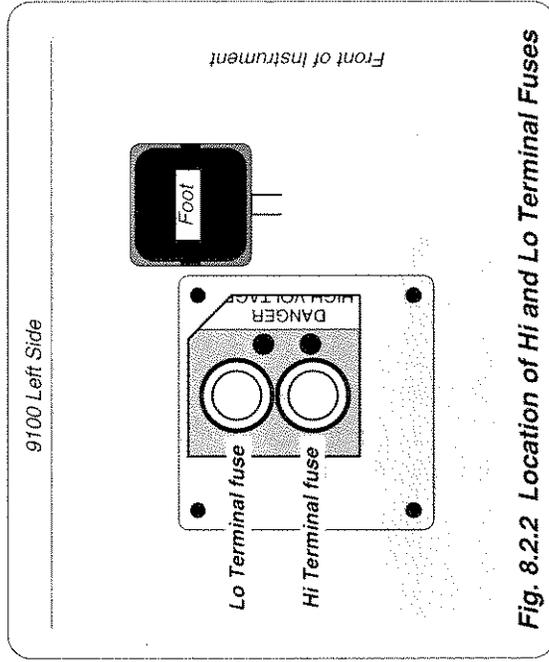

Fig. 8.2.2 Location of Hi and Lo Terminal Fuses
- b. Locate the two fuse caps (Fig. 8.2.2) in the recess: